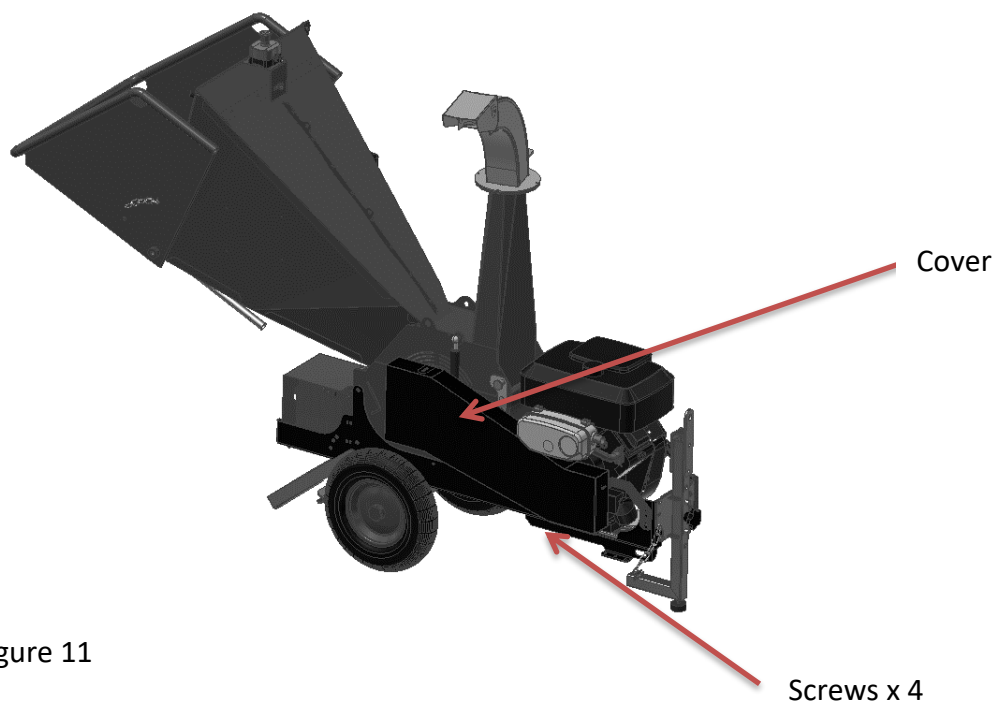

Figure 11
5. Replace the cover and tighten the 3 screws. See figure 11.